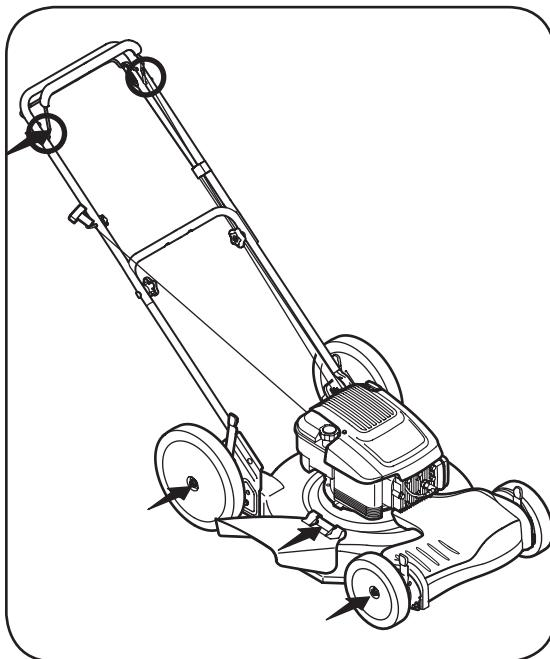

Figure 5-1
1. Lubricate pivot points on the blade control and drive control at least once a season with light oil. These controls must operate freely in both directions. See Figure 5-1.
2. Lubricate the wheels at least once a season with light oil (or motor oil). If wheels are removed for any reason, lubricate surface of the pivot arm and inner surface of the wheel with light oil. See Figure 5-1.
3. Lubricate the torsion spring and pivot point on each end of the side mulching plug/chute deflector periodically with light oil to prevent rust. See Figure 5-1.